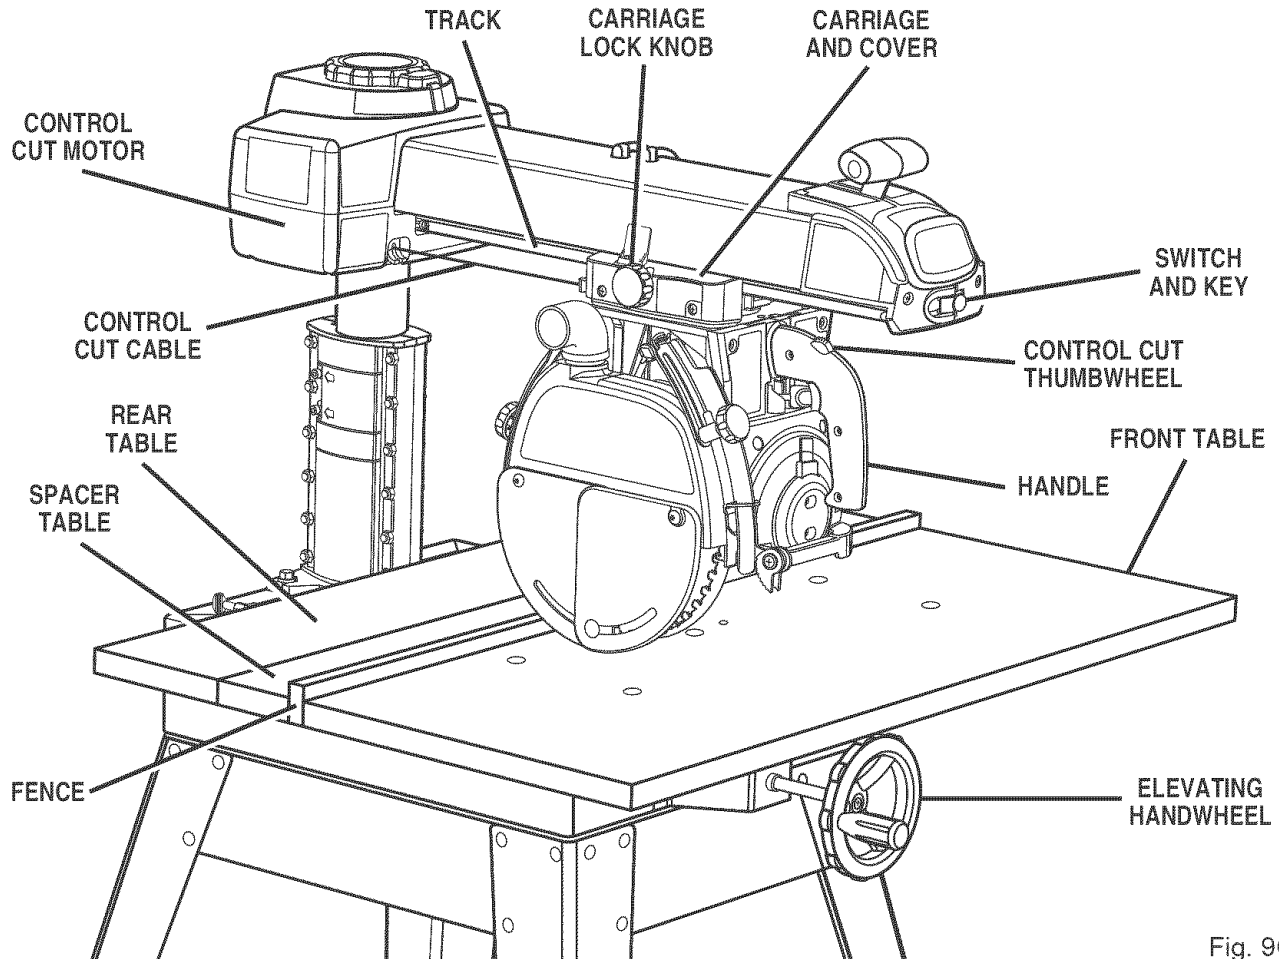

Fig. 9C
**ADJUSTABLE TABLES** - A narrow spacer table and wider rear table that can be repositioned or even replaced with different tables. See Figure 9C.
**CARRIAGE** - Slides along track under arm and supports yoke. Contained in two carriage covers, one on each side of the arm. *See Figure 9C.*
**CARRIAGE LOCK KNOB** - Controls whether the carriage is locked or can travel. Located on the left side of the arm on the carriage cover. *See Figure 9C.*
**CONTROL CUT DEVICE** - Limits carriage speed to prevent climb, using a cable from the carriage to the column. Has a separate motor on left side, which is activated by the switch trigger in the handle. The cable returns the carriage to the column when the motor is not activated. Speed is adjusted with a thumbwheel on the handle. It runs on a separate 120V AC single voltage circuit. *See Figure 9C.*
**ELEVATING HANDWHEEL** - The handwheel below the worktable (in front) that changes the height of the arm and the blade. *See Figure 9C.*
**FENCE** - Removable guide for work, which extends across width of table. *See Figure 9C.*
**FRONT TABLE** - Fixed portion of the worktable that supports the work. *See Figure 9C.*
**HANDLE** - Used to pull the yoke assembly. Mounted on the yoke to the right of the blade. *See Figure 9C.*